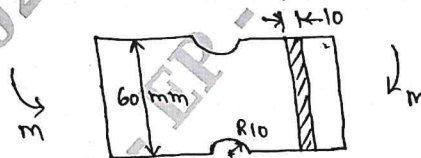

Fig.Q.2(a)
- 2 a. A notched flat plate shown in Fig.Q.2(a) is subjected to bending moment of 10 N.m. Determine the maximum stress induced in the member by taking the stress concentration into account.